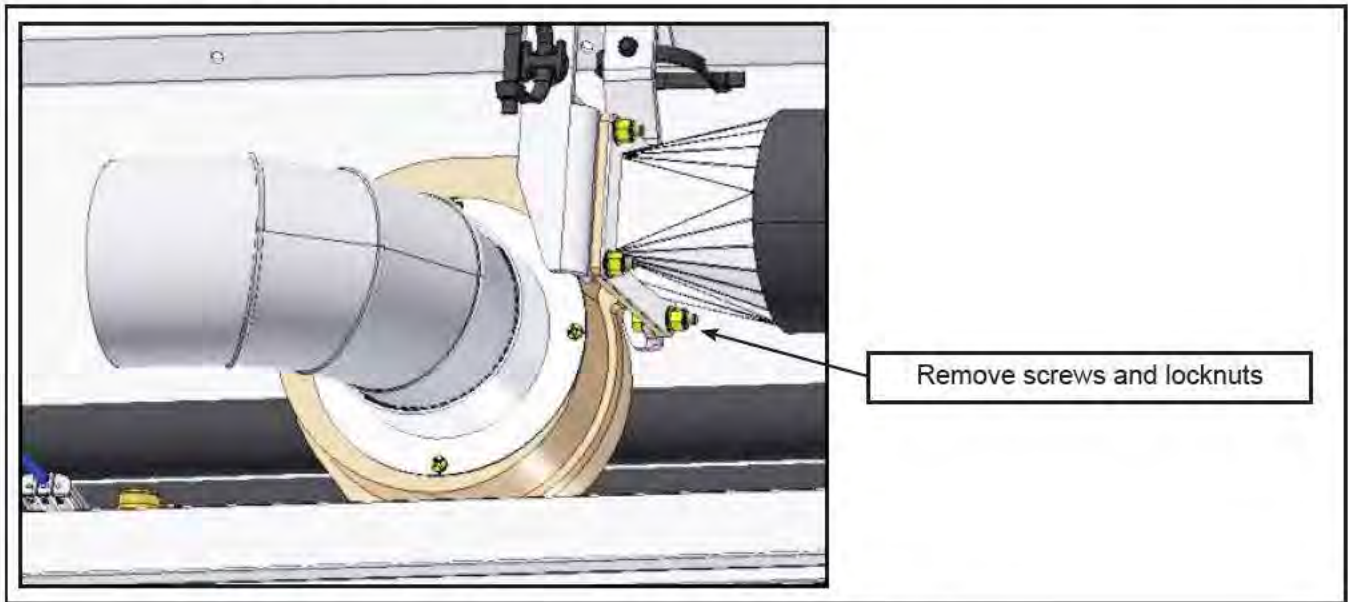

Figure 6 - Remove the Ventilation Blower (Typical)
- a. Disconnect the electrical cable and unscrew the 4 screws to remove the blower (Figure 6). Keep the 4 screws and the 4 locknuts.
- Reinstall the blower on its support bracket with the 4 M6x25 screws and the 4 locknuts (ref. Figure 6).